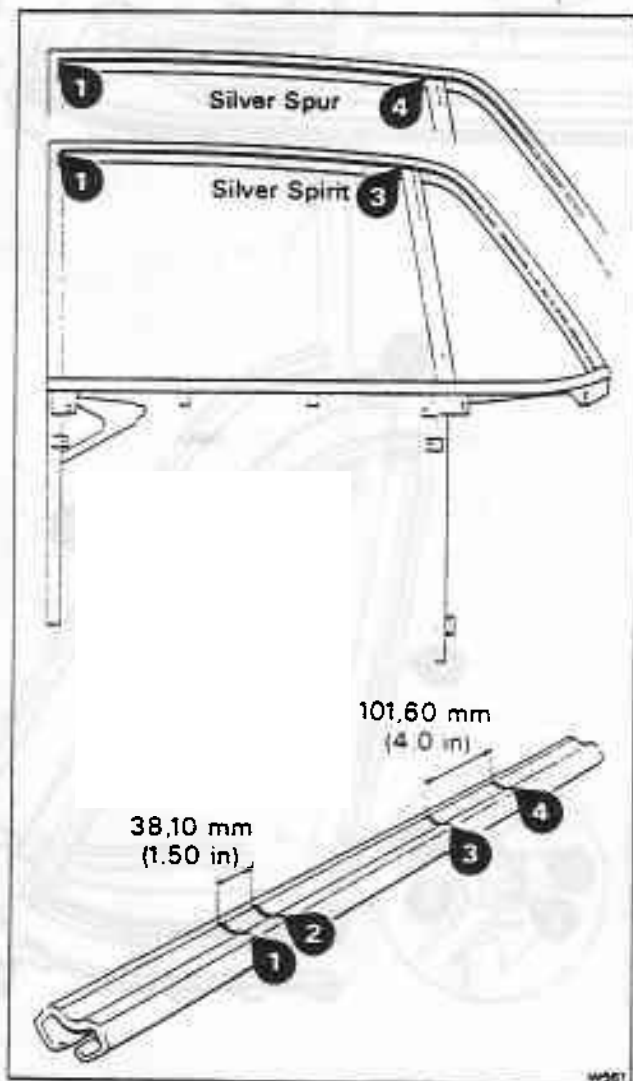

Fig. S4-10 Window frame channel seals and guides
2. Apply Teepol or its equivalent around the inside of the window glass channel. To ensure that the slots in the channel seal are positioned correctly refer to figure S4-10.